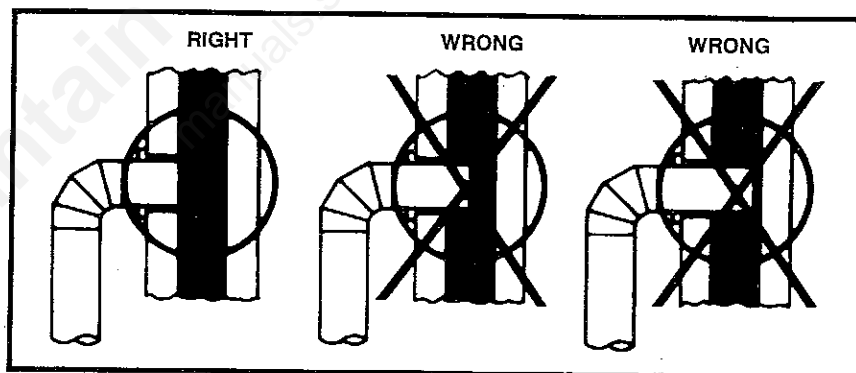

FIG. 7
4. The pipe cannot extend into the chimney flue (Fig. 7).
1. The connector pipe may be pushed into the chimney too far, stopping the draft (Fig. 7).